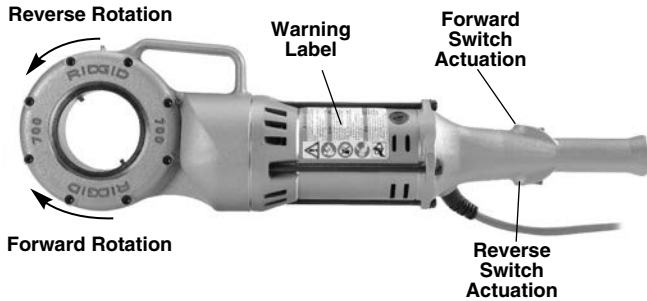

Figure 3 – Switch Position for Rotational Direction
- Presence and readability of warning labels (*Figure 3*).
- Depress and release the switch for FORWARD rotation and repeat for REVERSE rotation as shown in *Figure 3*. Confirm that the power drive rotates as shown in *Figure 3* and that the switch controls the machine operation.
4. Simultaneously actuate the switch button (see *Figure 3*) and push against the die head cover plate with the